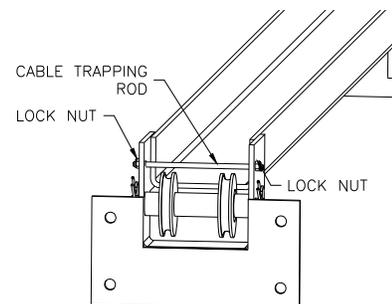

Fig. 5-Cable Trapping
- 17) At the upper beam sheave locations disassemble and reassemble the cable trapping rod to install the cable onto the sheave as shown in **Fig 5**. At base of columns, bottom sheave will need to be removed then reassembled.